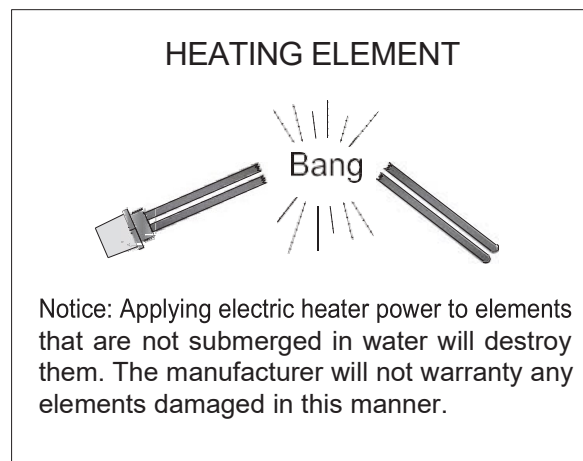

Figure 11
- a. Be sure tank is completely filled with water before making any electrical connections. (See Figure 11)